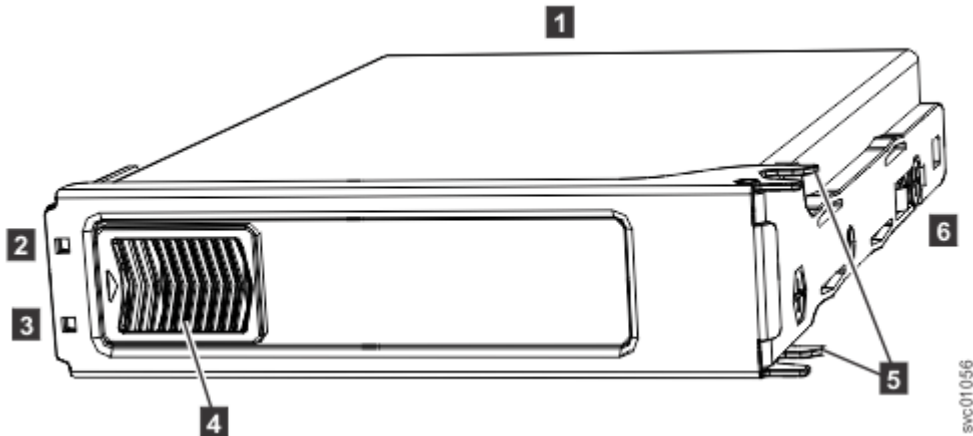

Figure 41. Drive assembly
The 2072-92F expansion enclosure supports 92 drives. Figure 41 on page 59 shows an example of a drive assembly.
**Note:** When a drive is faulty, the amber fault indicator is lit (3 in Figure 41 on page 59). Do not replace a drive unless the drive fault indicator is on or you are instructed to do so by a fix procedure.